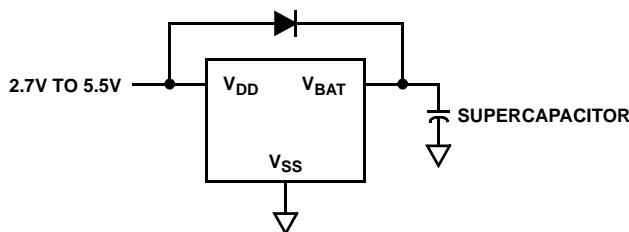

FIGURE 28. SUPERCAPACITOR CHARGING CIRCUIT
- **Mode C** - In this mode, the selection bits indicate a low  $V_{DD}$  switchover combined with no communications in battery backup. Operation is actually identical to Mode A with  $\text{I}^2\text{C}$  communications down to  $V_{DD} = V_{RESET}$ , then no communications (see Figure 28).